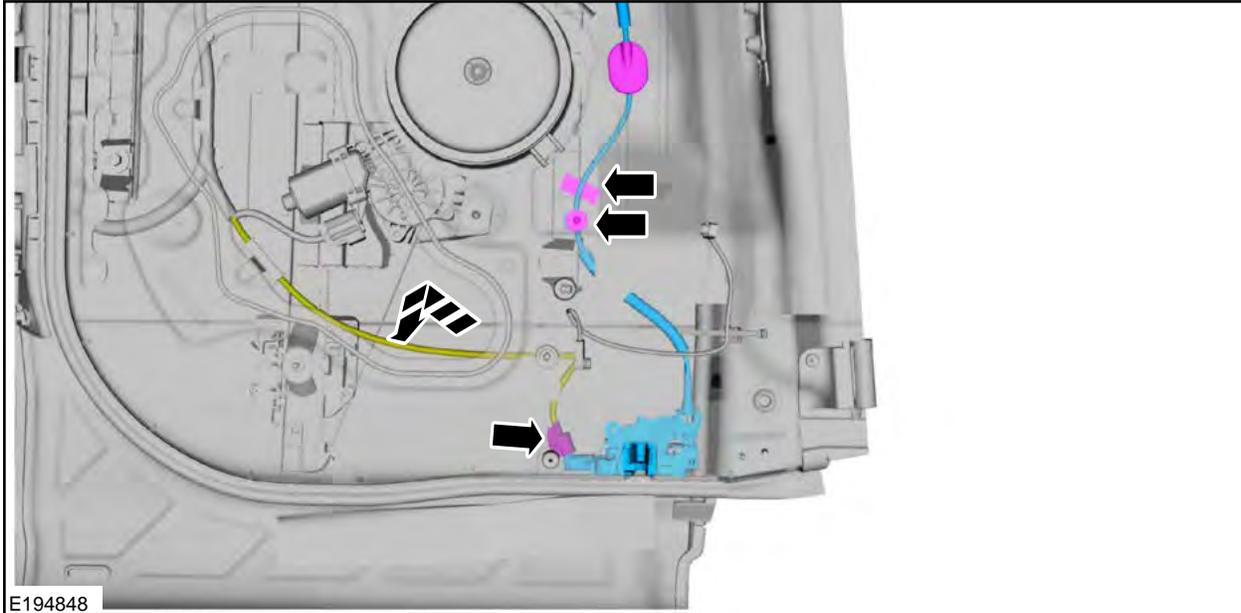

FIGURE 103
4. Inspect the interior door handle to latch cable for kinking. See Figure 103.
6. Detach the cable retainers and disconnect the electrical connector. Position the rear door latch outside of the door. See Figure 103.
9. Position the rear door lower latch back into the door. Attach the cable retainers and connect the electrical connector. See Figure 103.